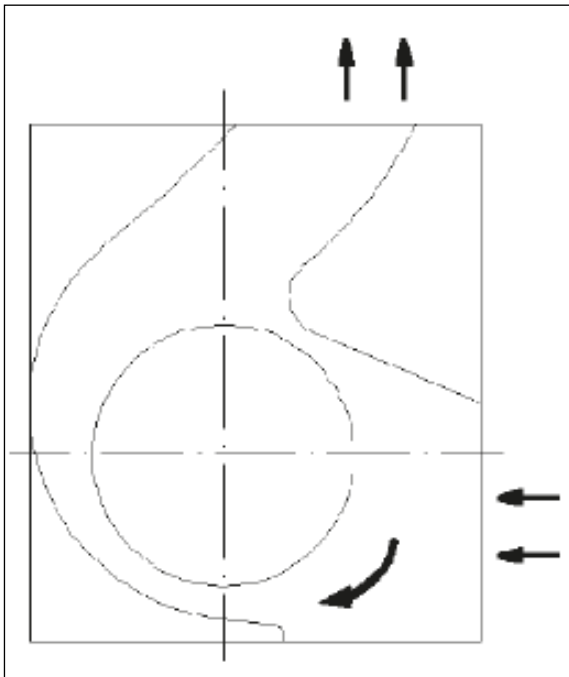

Figure 1: Direction of rotation: right
- Check: Smoothness of motor operation, **Direction of rotation/direction of conveyance when looking at the motor (see also Fig. 1, 2)**